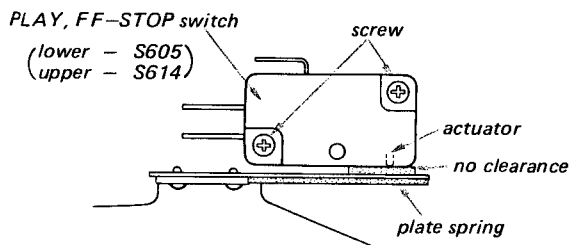

Fig. 3-6. PLAY, FF-STOP switch (S605, 614) position adjustment
1. Place the unit in the FF or REW mode, to energize the brake solenoid. Check to see that the actuator of microswitch is perfectly pushed with the plate spring and also that the no clearance between the microswitch and the plate spring is obtained as shown in Fig. 3-6.